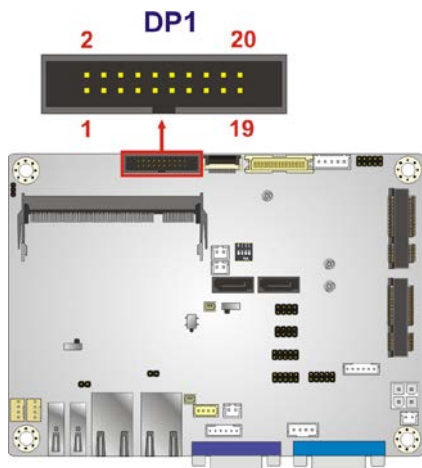

Figure 3-9: Internal Display Port Connector Location
- CN Location:** See **Figure 3-9**